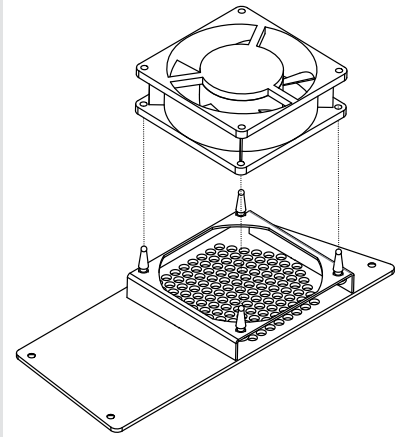
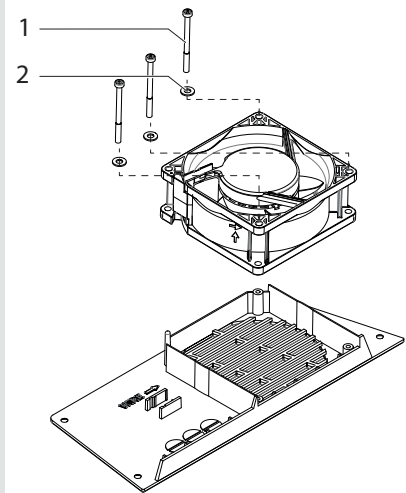

Figure 30: Unplugging the fan
Figure 31: Mounting the fan
- 5. Remove the fan from the cover by pulling it out of the cover or dismount the fan from the cover using the fastening screws. (see position 1 & 2 in figure "Figure 30: Unplugging the fan" on page 47)
1. Place the new fan in the holding fixture (Figure 30 or Figure 31).
2. Press the fan into the holding fixture or mount the fan with the fastening screws. (see position 1 & 2 in figure-Figure 31)